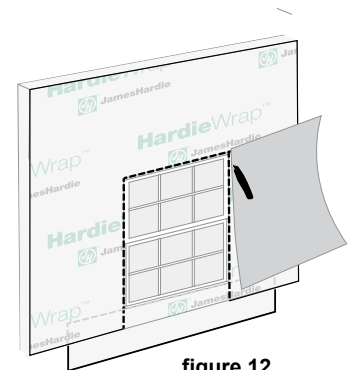

figure 12
- Cut HardieWrap weather barrier around the openings to expose the window/door and apron as shown (fig.12).